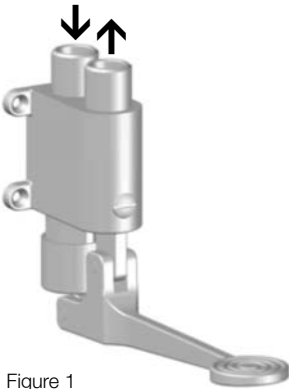

Figure 1
2. Reverse the handle as shown in Figure 1.